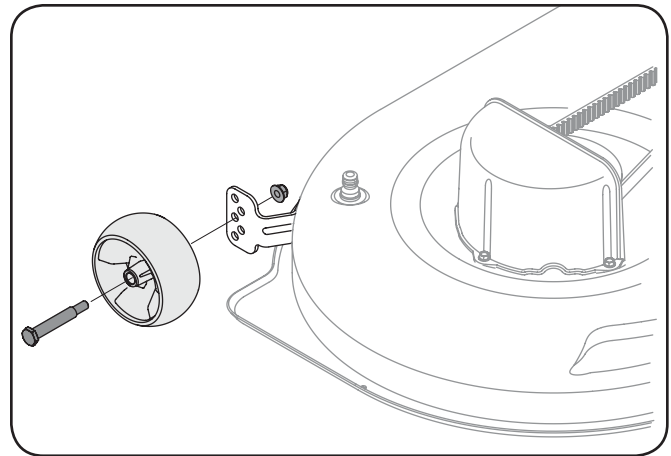

Figure 3-4
- b. Remove the front and rear (optional) gauge wheels by removing the lock nuts and shoulder screws which secure them to the deck. See Figure 3-4.